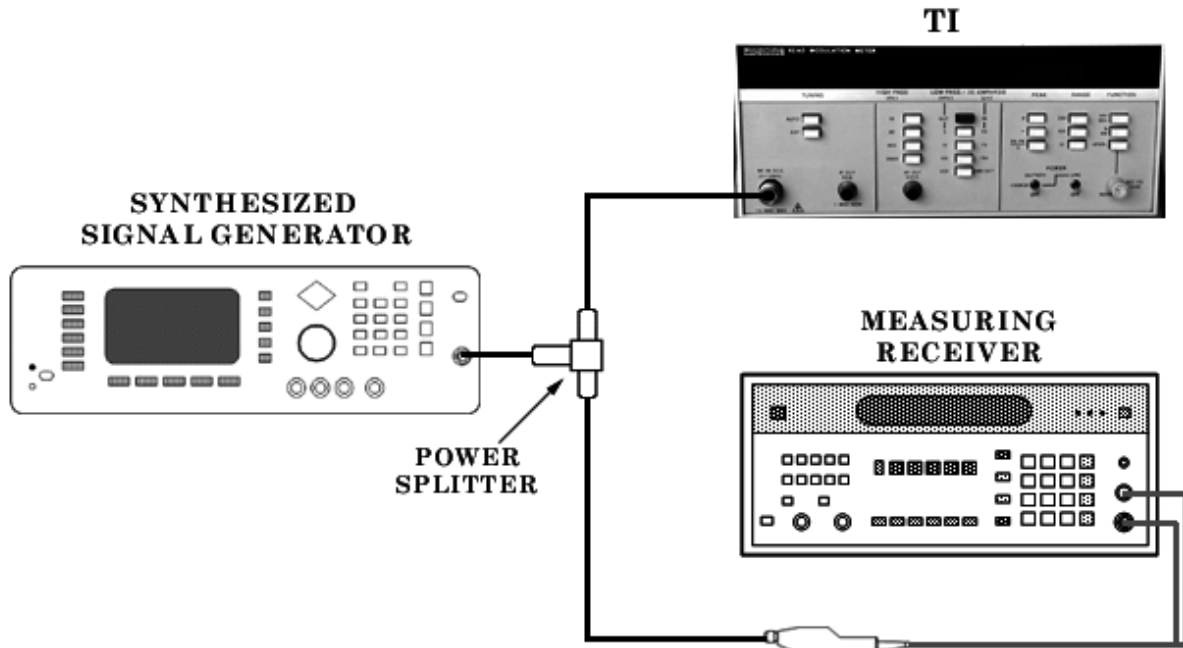

Figure 3. AM and FM accuracy – equipment setup.
- (1) Connect equipment as shown in figure 3.
- (2) Press TI pushbuttons as listed in (a) through (e) below:
(1) Connect equipment as shown in figure 3.
(2) Press TI pushbuttons as listed in (a) through (f) below:
- (16) Press **DE-EMPHASIS** (green pushbutton) and **50  $\mu$ s** pushbuttons. TI will indicate between 69.3 and 72.1 kHz.
- (17) Release **DE-EMPHASIS** and press **LOW-PASS (kHz) 15** pushbuttons.
- (18) Repeat (10) above for FM Rate of 2.122 kHz.
- (19) Press **DE-EMPHASIS** and **75  $\mu$ s** pushbuttons. TI will indicate between 69.3 and 72.1 kHz.
- (20) Repeat (17) above.
- (21) Repeat (10) above for FM Rate of 212.2 Hz.
- (22) Press **DE-EMPHASIS** and **750  $\mu$ s** pushbuttons. TI will indicate between 69.3 and 72.1 kHz.
- (23) Repeat (17) above.
- (24) Repeat (10) above for FM Rate of 1.0 kHz.
- (25) Press **DE-EMPHASIS** and **6 dB/OCT** pushbuttons. TI will indicate between 96.0 and 104.0 kHz.
- (26) Disable outputs and connect equipment as shown in figure 3.
- (27) Adjust measuring receiver controls as necessary to measure FM modulation with **PEAK+ DETECTOR**.
- (28) Release TI **DE-EMPHASIS** pushbutton and press pushbuttons as listed in (a) through (c) below:
- (29) Adjust synthesized signal generator FM Rate to 3.0 kHz and FM Deviation for a 16.5 kHz deviation indication on measuring receiver.
- (30) TI will indicate between 10.98 and 12.37 kHz.
- (31) Adjust synthesized signal generator FM Rate to 15.0 kHz and FM Deviation for a 36.0 kHz deviation indication on measuring receiver.
- (32) Press **LOW-PASS (kHz) 15** and **RANGE 100** pushbuttons. TI will indicate between 23.9 and 27.0 kHz.
- (33) Adjust synthesized signal generator FM Rate to 120.0 kHz and FM Deviation for a 290.0 kHz deviation indication on measuring receiver.